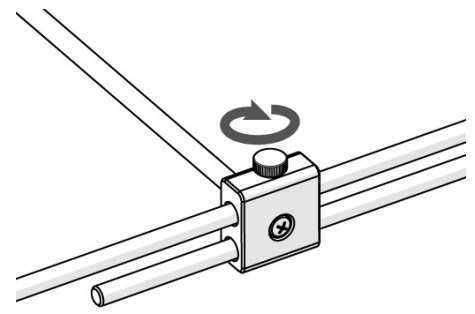

Figure 10. Thumbscrew
Step 6. Secure the cable lacing bar into place by tightening the thumbscrews found on the top of the adjustment blocks (see Figure 10).